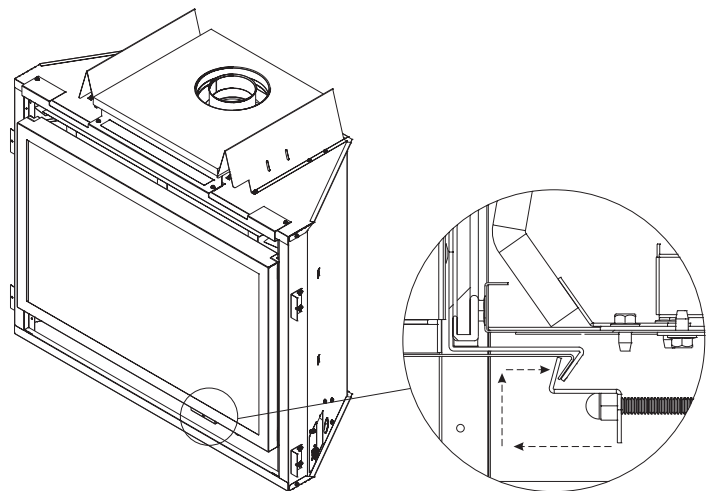

Figure 98
4. Engage the two glass latches over the barrier screen and glass frames as shown in **Figure 98.**